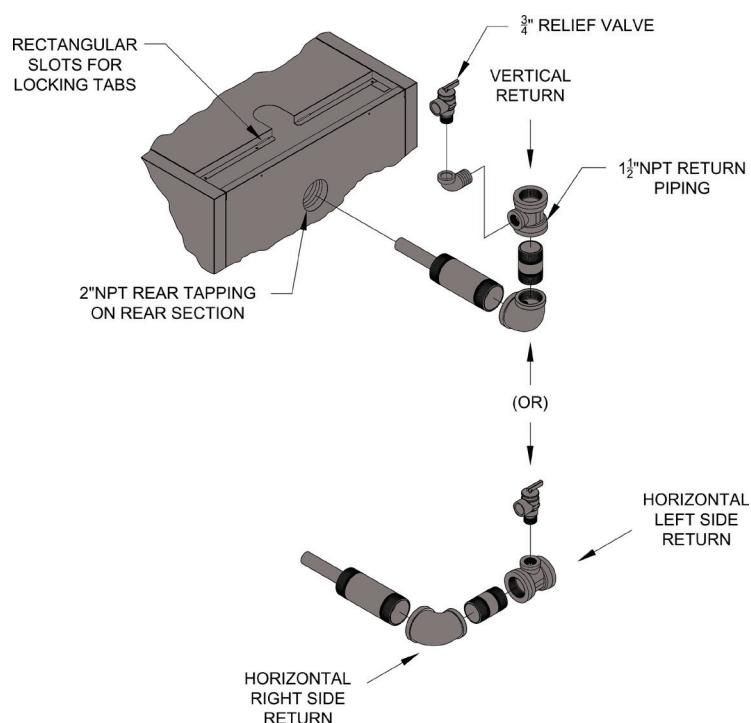

Figure 5: Return Manifold and Relief Valve Assembly Details
F. FIELD ASSEMBLY OF BOILER TRIM Open miscellaneous parts carton and remove contents. Identify the components using the illustrations (see Figure 5 thru 8) throughout the assembly sequence outlined below as it applies to your installation.
1. Install return manifold and relief valve, refer to Figure 5.
Note: Based on system return piping and access to service boiler, see Figures 1, 9A and 9B, predetermine if manifold orientation is to be positioned for vertical, horizontal left or horizontal right side return piping as shown in Figure 5.